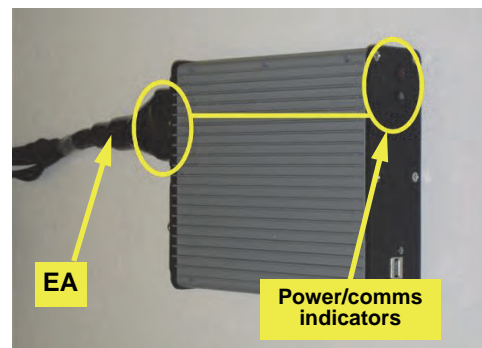

Figure 1f: ECU main cable connected
- i. Connect main cable **EA** to the ECU **EP** using an Allen wrench to secure the cable. The **EA** connector will only fit the ECU socket that is in line with the power and communications indicators at the opposite end of the ECU - the upper socket in this installation (Figure 1f).